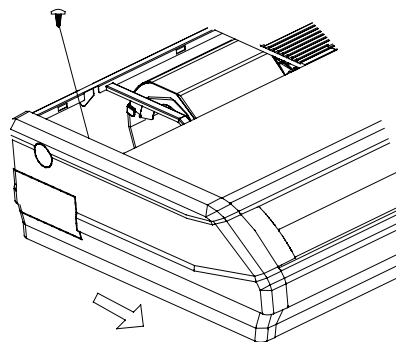

Fig.3
- (3) Remove the side panel fixing screw and pull to the front direction (arrow direction) to remove. (Refer to Fig.3)